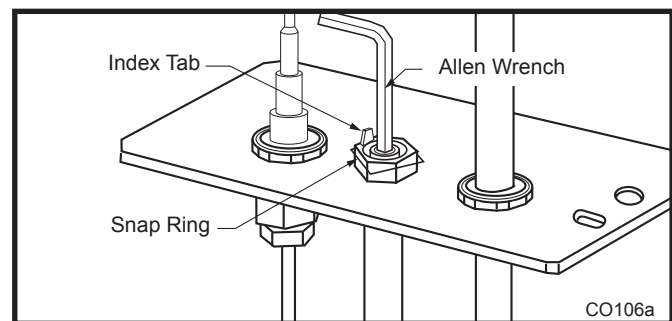

Fig. 44 Remove pilot orifice.
1. Remove stove front. Lift stove front up and then swing bottom out and away to disengage from the stove body. (Page 22, Fig. 44)
- Remove pilot orifice with allen wrench. (Fig. 44)